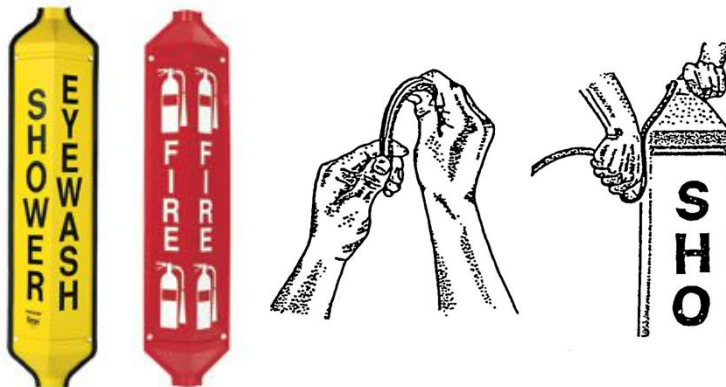

FIGURE 1
2. Spread walls of trim strip by curling back before applying to sign as shown in **Figure 1**.